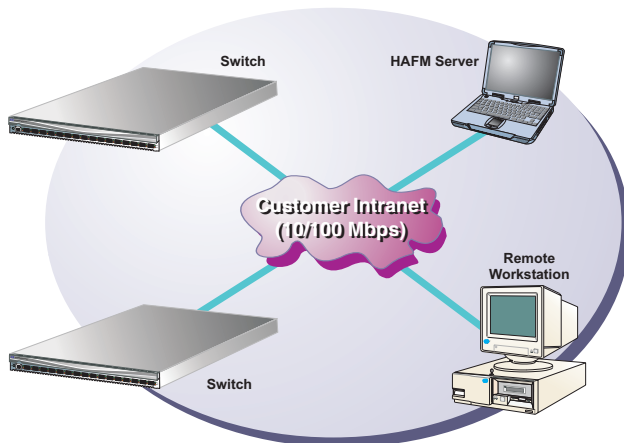

Figure 1-6: Typical Network Configuration (One Ethernet Connection)
- Part of the customer's public 10/100 Mbps LAN segment that provides access to managed switches. This switch-to-HAFM server LAN connection is part of the equipment rack installation and is required. Connection of remote workstations through the hub is optional. This type of network configuration using one Ethernet connection through the HAFM server is shown in Figure 1-6.